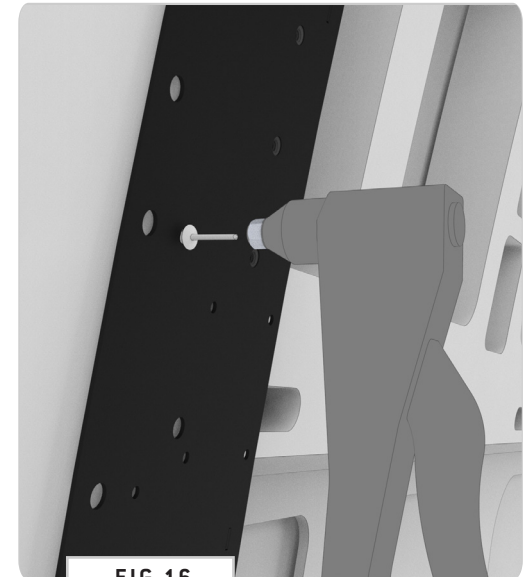

FIG 16
**5.3 Install Rivets:** After the paint has dried, install the **Rivets** (**FIG 16**).